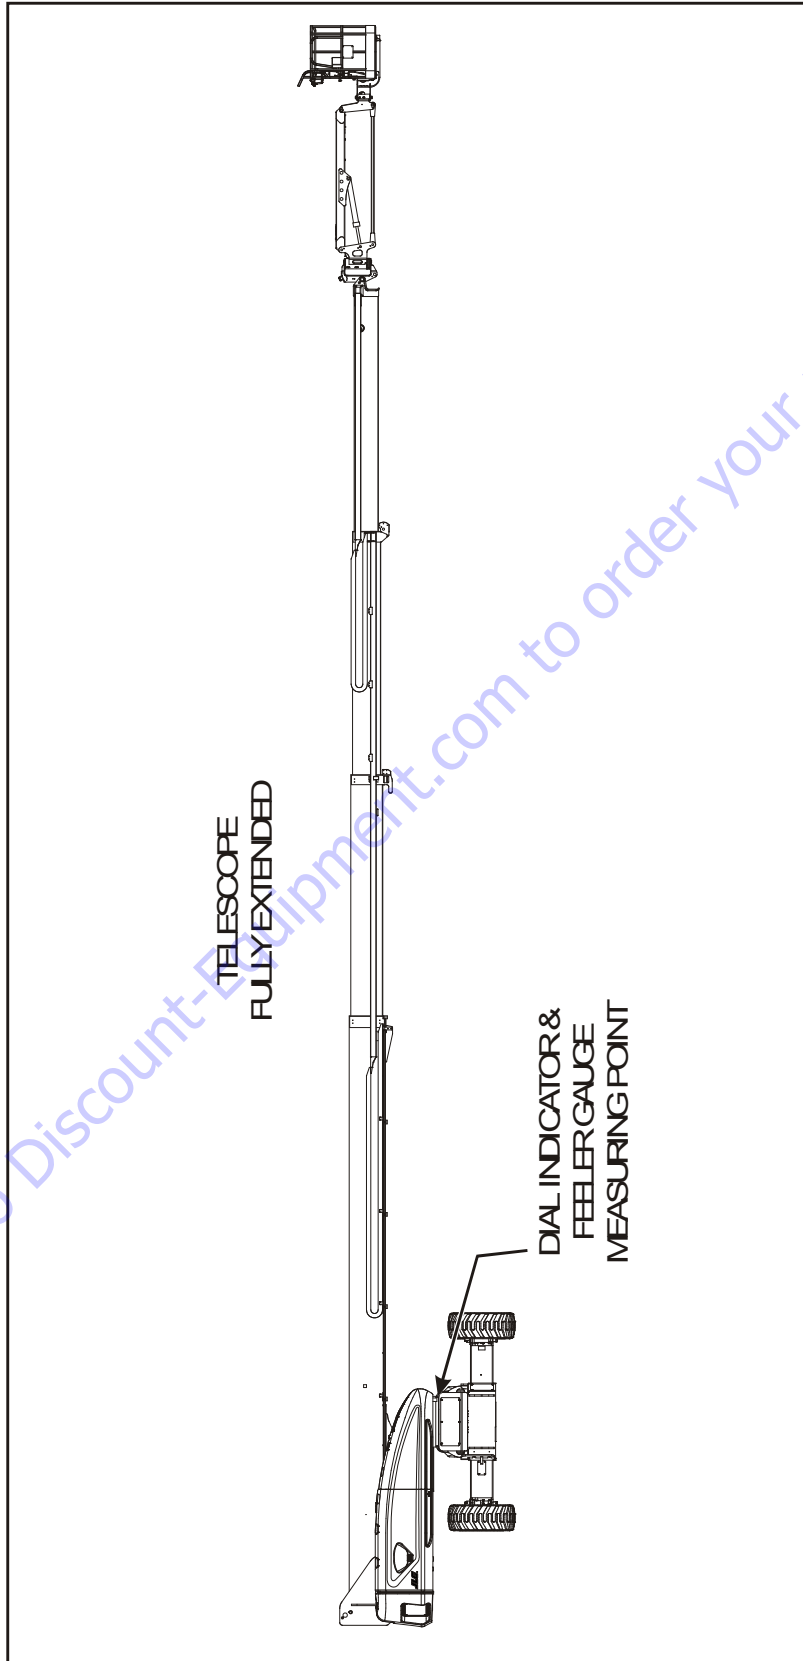

Figure 3-64. Swing Bearing Tolerance Boom Placement - Sheet 2 of 2
- d. At the position indicated on Figure 3-64., try and insert the 0.0015" feeler gauge between the bolt head and hardened washer at the arrow indicated position.
2. Next, position the main boom fully extended and horizontal as shown in Figure 3-64., Swing Bearing Tolerance Boom Placement - Sheet 2 of 2. Read the measurement recorded on the dial indicator gauge.